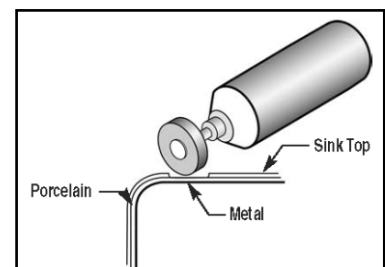

Figure 7: Grinding Wheel
- B. Grind away a 1-1/4-inch diameter circle in the porcelain using a silicon/carbide wheel and high-speed grinder (See *Installation Tool List*), down to the metal surface of the sink. (See Figure 7)